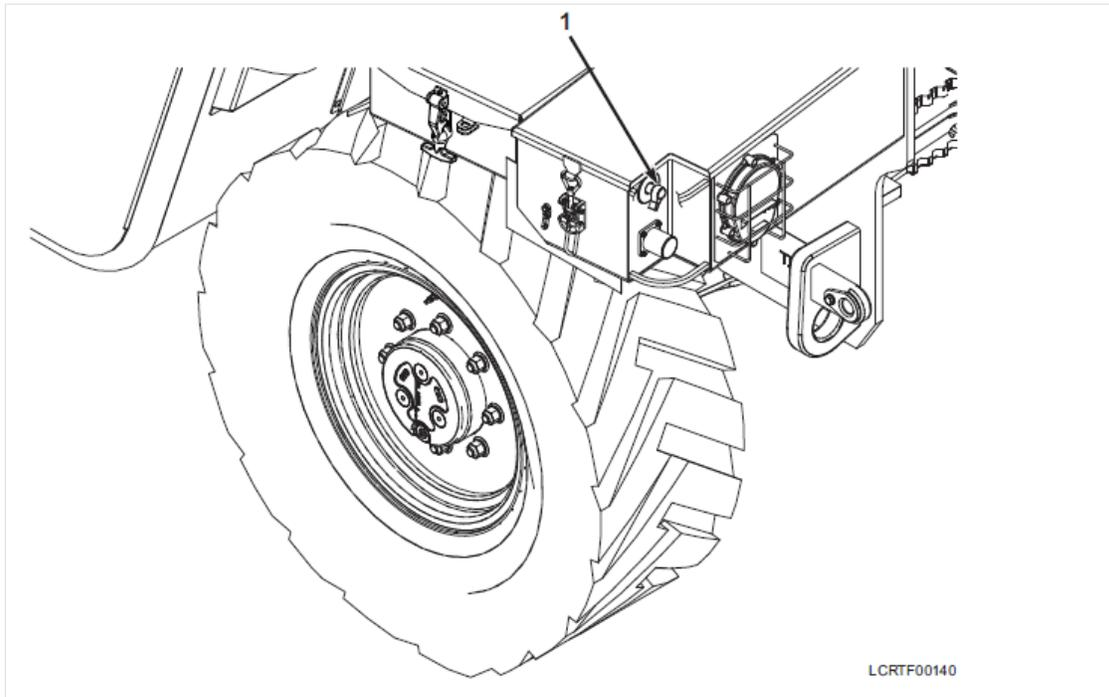

Figure 1-1
a. Move battery disconnect switch to ON position (see Figure 1-1, Item 1).